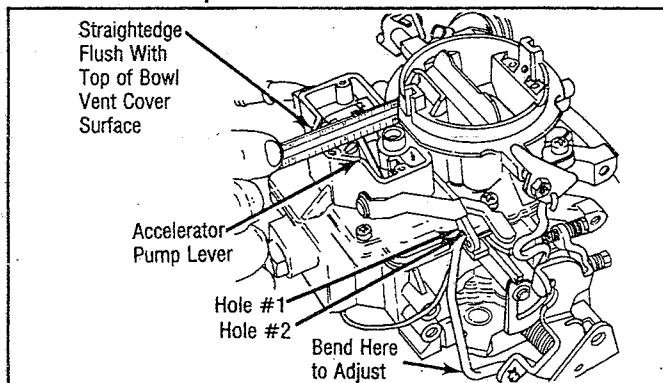

Fig. 2 Accelerator Pump Stroke Adjustment
1. Adjustment is made with bowl vent cover and vent valve lever spring removed. See Fig. 2.